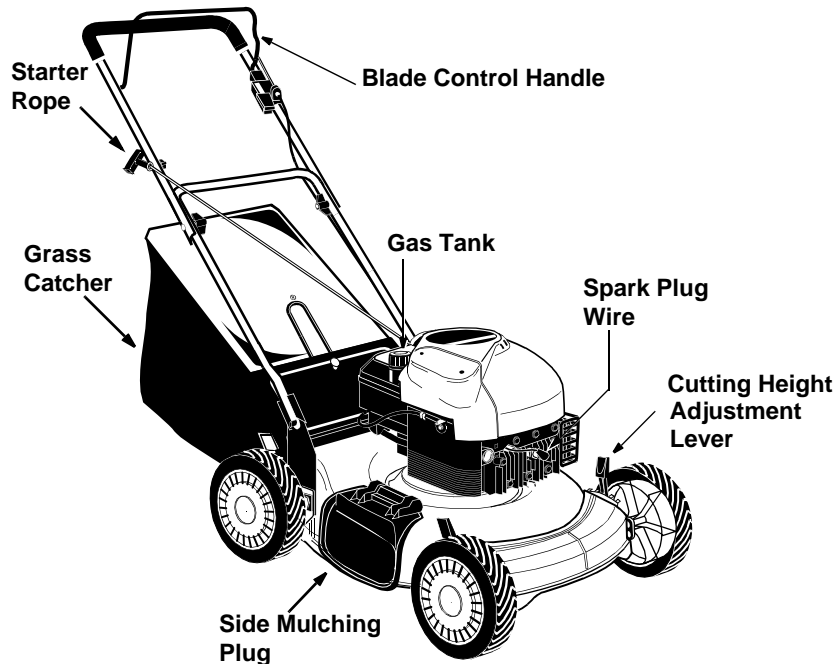

FIGURE 7
- To convert your mower from a mulcher to a rear bagger, remove side-discharge and lower the side mulching plug. For location of side mulching plug, see Figure 7.
Read this owner's manual and safety rules before operating your lawn mower. Compare the illustrations in Figure 7 with your lawn mower to familiarize yourself with the location of various controls and adjustments. Save this manual for future reference.